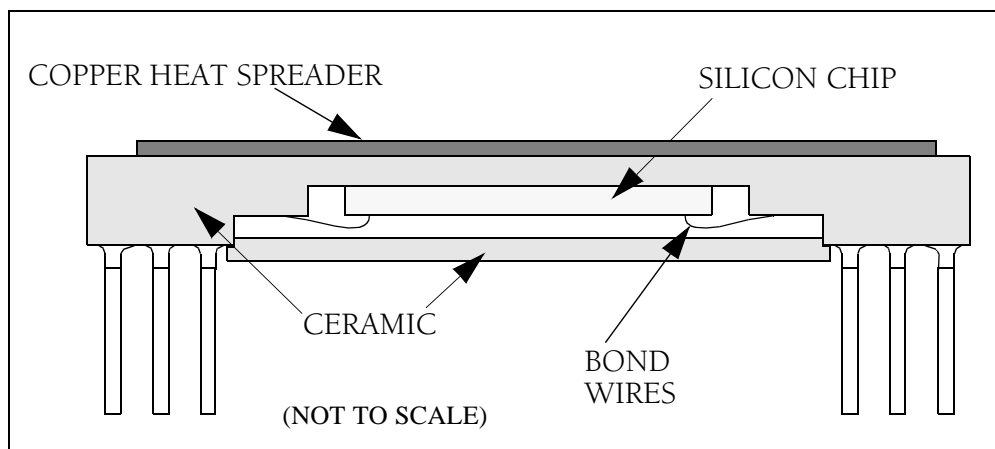

Figure 1. 6x86 PGA Package Cross-Sectional View
The 6x86 CPU dissipates as much as 25 watts of power depending on the CPU clock frequency. The CPU is mounted up-side-down in a PGA package (Figure 1). Most of the heat is concentrated at the surface of the semiconductor chip and is passed to the package through three main paths: (1) through the bulk of the silicon chip to where the chip is mounted to the package, (2) through the bond wires to the package, (3) through radiation across the void between the chip and the bottom of the package.